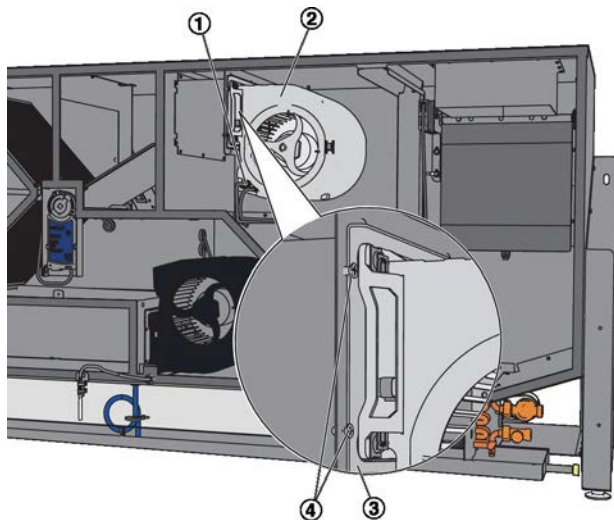

Fig. 27: Replacing the supply air fan
The supply air fan (Fig. 27/2) is installed above the extract air fan.
4. ▶ Remove the plugs of the fan connecting cables (Fig. 27/1).
5. ▶ Demount the retaining bracket for the fan (Fig. 27/3) by loosening the two Phillips screws (Fig. 27/4).
6. ▶ Pull the fan (Fig. 27/2) with the retaining bracket towards you.